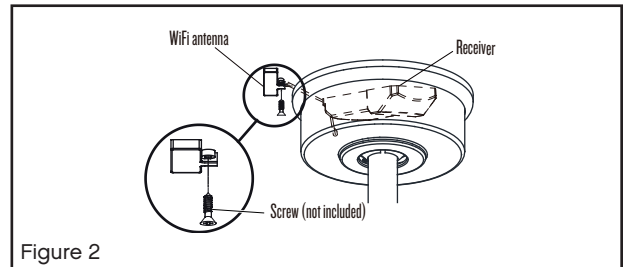

Figure 2
- 3 Loosen the security set screw and remove the downrod pin and cotter pin from the coupler on top of the motor assembly. (Fig. 2)
- 2 Seat the cradle A into the wall plate. (Fig. 2)
Signal light (Fig. 2)